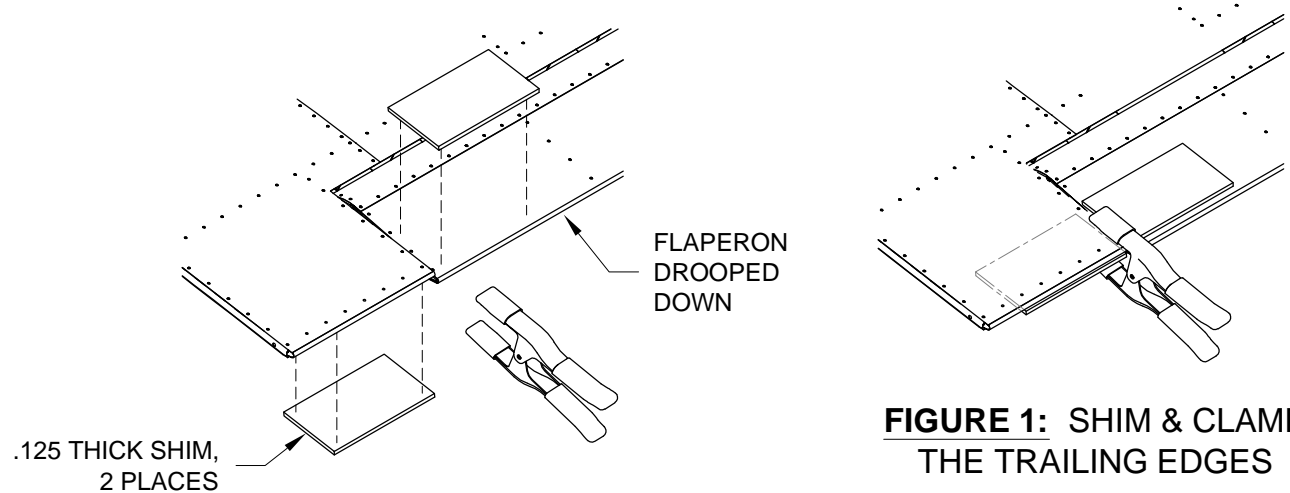

FIGURE 1: SHIM & CLAMP THE TRAILING EDGES
Step 1: Use .125 thick shims and clamps to droop down both the left and right Flaperons as shown in Figure 1.